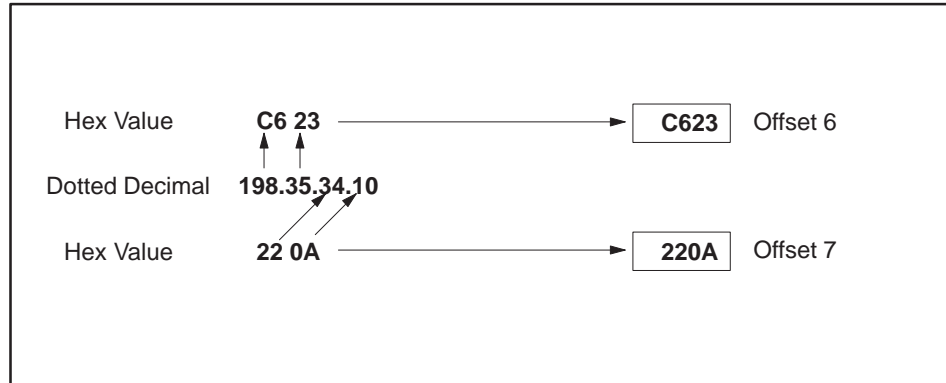

Figure 2-8 Example of an IP Address in Hexadecimal
When you are setting up the various IP addresses and subnet mask, you should set up TISOFT to display the words in hexadecimal. Then you can enter each byte of the dotted notation individually. For example, if the IP address were 198.35.34.10, you could enter the first word as hex C623 where the high byte (C6) is the hex equivalent of decimal 198 and the low byte (23) is the hex equivalent of decimal 35. Similarly, you would enter the second word as hex 220A. See Figure 2-8.